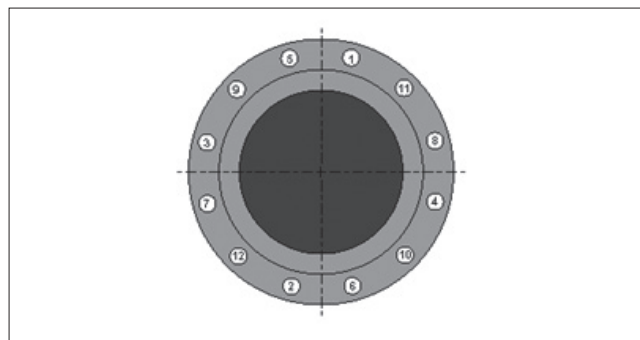

Fig. 8 Sample for a crosswise installation with twelve flange holes.
- Screw the stud bolts opposite to each other as well as the bolts, flange screws and hex nuts crosswise and equal with a torque key, in accordance with the parameter of the operator. (see Figure 8).